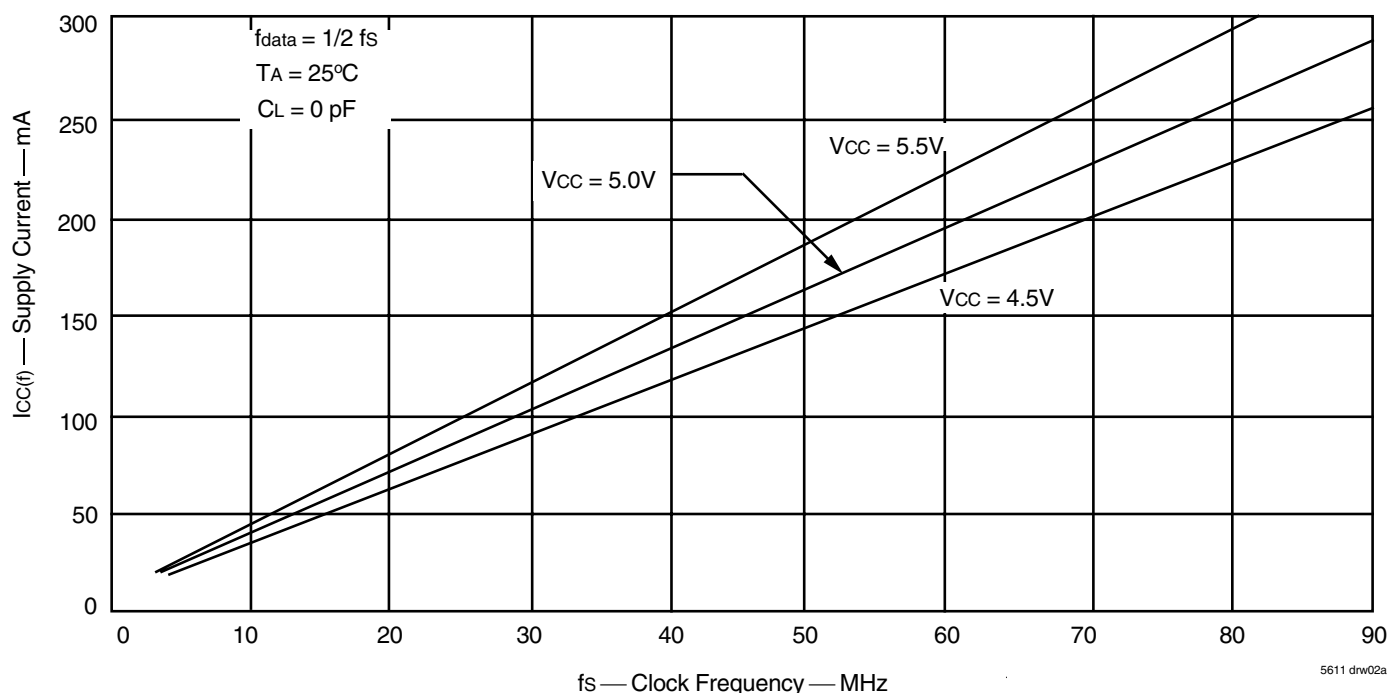

Figure 1. Typical Characteristics: Supply Current (I_{CC}) vs. Clock Frequency (f_s)
- For additional I_{CC} information, see Figure 1, Typical Characteristics: Supply Current (I_{CC}) vs. Clock Frequency (f_s).
The $I_{CC}(f)$ current for the graph in Figure 1 was taken while simultaneously reading and writing a FIFO on the IDT723656/723666/723676 with CLKA, CLKB and CLKC set to f_s . All data inputs and data outputs change state during each clock cycle to consume the highest supply current. Data outputs were disconnected to normalize the graph to a zero capacitance load. Once the capacitance load per data-output channel and the number of these device's inputs driven by TTL HIGH levels are known, the power dissipation can be calculated with the equation below.
With $I_{CC}(f)$ taken from Figure 1, the maximum power dissipation (P_T) of these FIFOs may be calculated by: